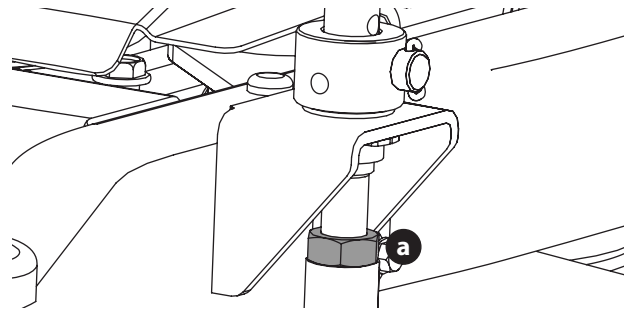

Figure 14
3. There are four adjustment points on the deck. Each of the deck lift adjustment pins has an adjustment bolt (a) (Figure 14). Raise or lower each side of the deck using the four bolts (a) until the side-to-side height is equal.
1. Raise or lower the front and/or rear of the deck using the four adjustment bolts (a) on the deck lift adjustment pins until the front of the deck is 1/4-3/8" lower than the rear of the deck (Figure 14).